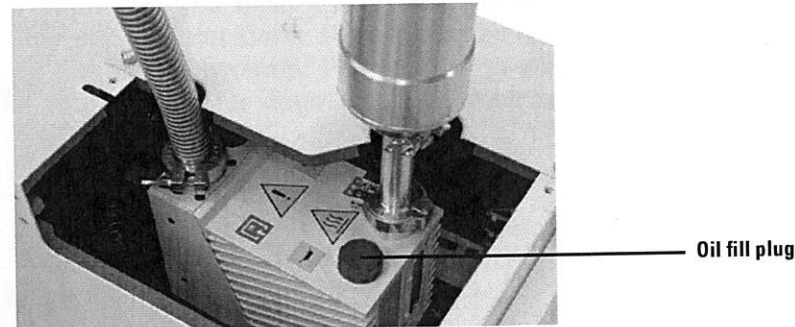

Figure 15 Oil fill plug location (DS 302 shown)
- 14 Remove the access panel over the oil fill plug and refill the pump (Figure 15). Refer to the pump documentation for more information.